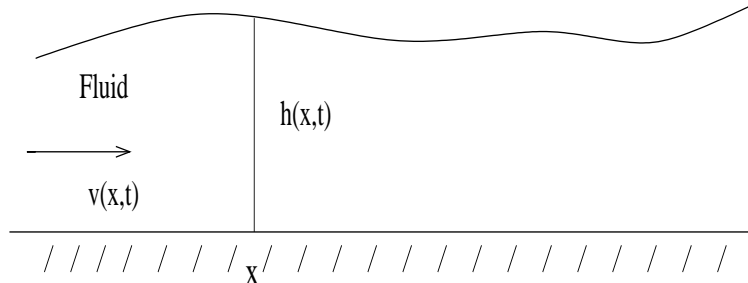

Figure 1: Flow of a thin film.
2. [10 pts] The coating of surfaces by thin fluid films is a critical industrial process that arises in applications such as the protection of microchips, de-icing of airplane wings, and the construction of photographic film. Consider, for example, painting a wall. What you would like to do is simply brush a single thick line of paint across the top of the wall and let the paint descend in a steady sheet to the floor. Unfortunately, in most circumstances the paint drips down in *fingers*, and the wall is not smoothly covered. Through the use of mathematical modeling, we can create laboratory situations in which the paint descends as a steady wall. In this problem, we will take the first step toward such a model by deriving a partial differential equation for the height  $h(x, t)$  of a thin film moving along a surface (see Figure 1). Assuming the film has constant density  $\rho$ , that it is moving with velocity